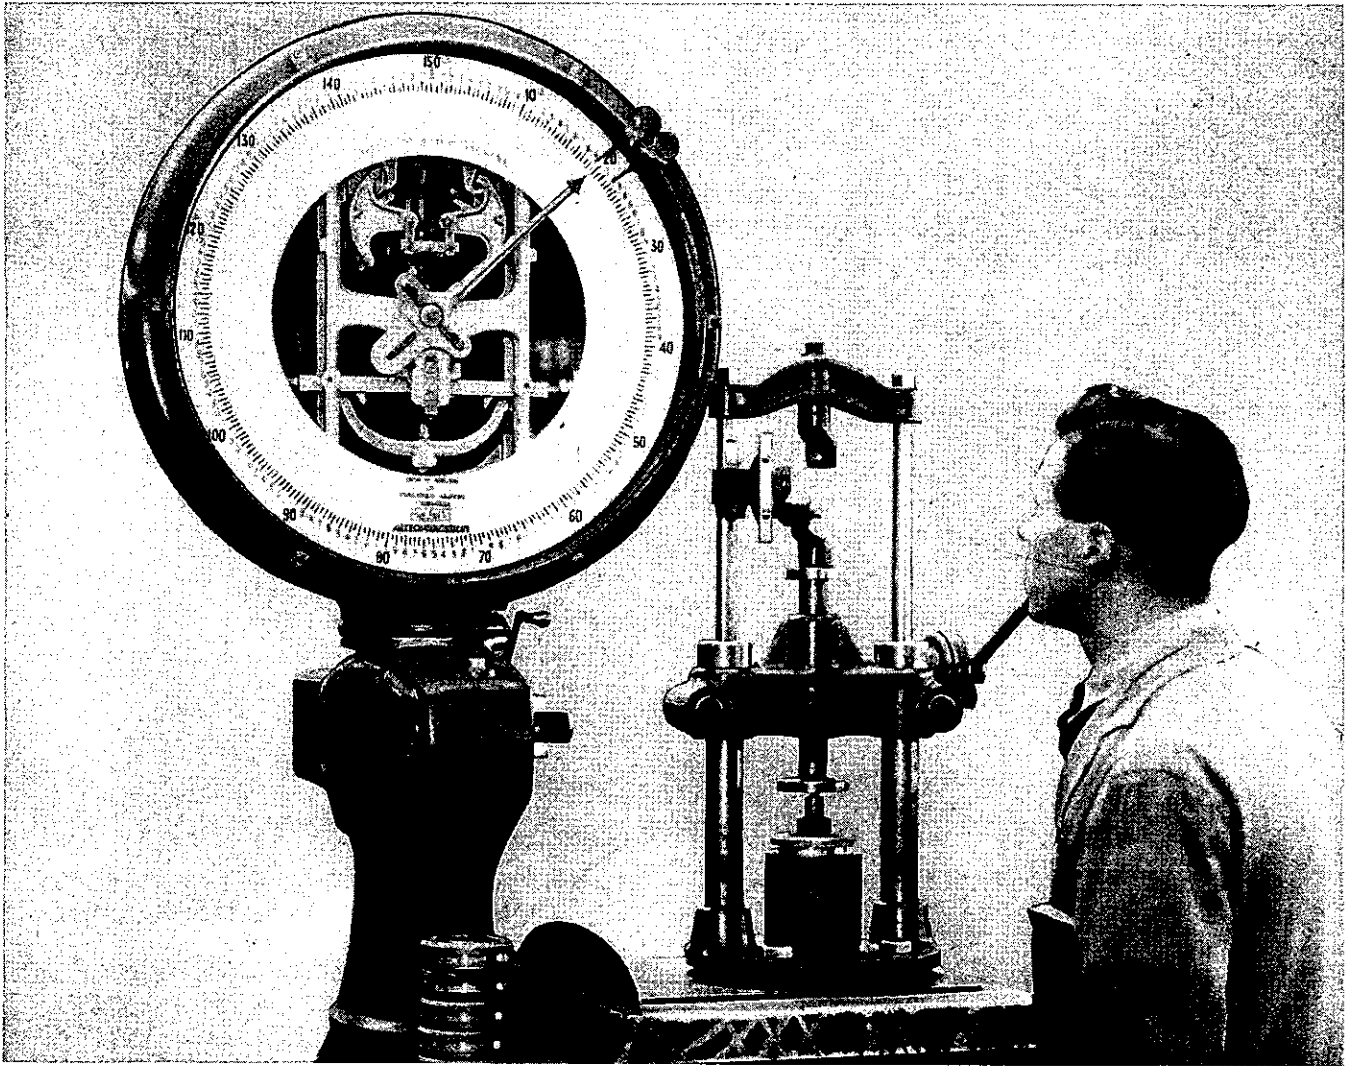
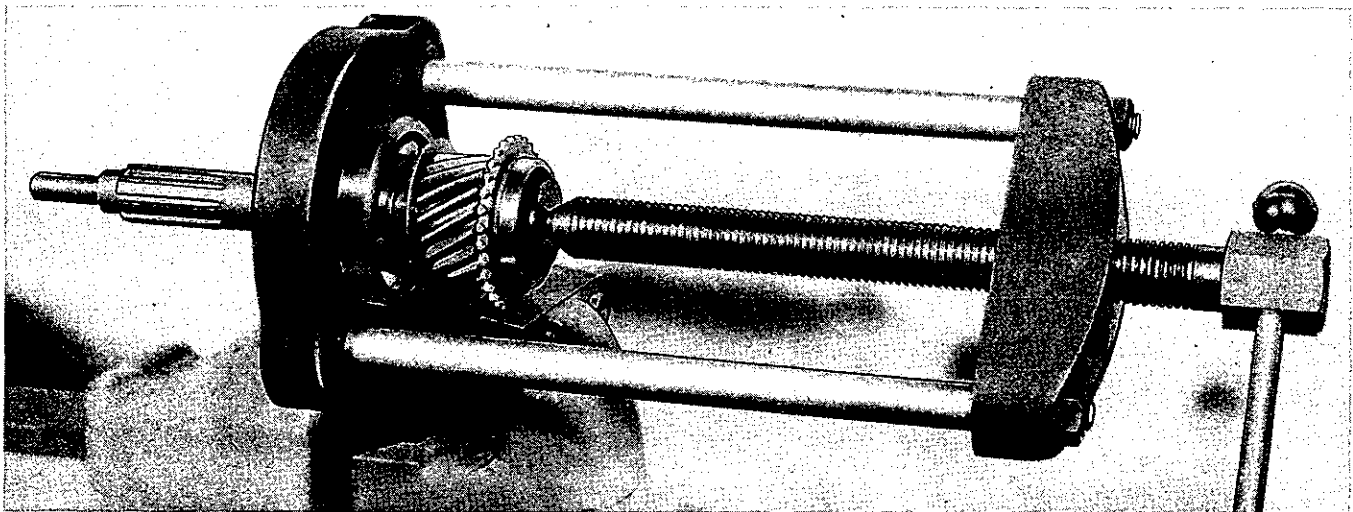
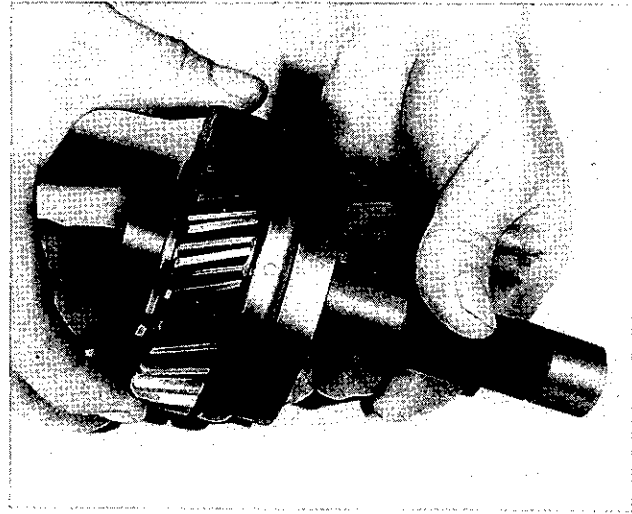

Fig. 25. Testing axial load for synchro release with a spring testing machine
Fig. 26. Fitting constant pinion race with Churchill Fixture 20SM-4615
Fig. 32. Lapping in "first" gear and synchro cup with Churchill Tool No. 20SM-83
must be carried out to increase or decrease loading respectively. The method employed for checking this loading in the factory is illustrated in Fig. 25.
12. Assemble oil thrower on to constant pinion shaft and press ball race on to the shaft as shown in Fig. 26 ensuring that this goes right home and that in this position with the correct thrust washer fitted, the small seeger circlip fits properly into its recess. When passing this circlip along the ground portion of the constant pinion shaft, take care not to score the shaft as such damage may cause subsequent leakage of oil. Fit larger circlip into its recess in the ball race extension.
If doubt exists as to the condition of the coned faces, they should be lapped in together, employing burnishing paste and holding the cup on the special spiggotted fixture shown in Fig. 32. All traces of paste should subsequently be removed with a petrol-moistened rag. Carburundum paste should **NEVER BE EMPLOYED** for this lapping-in process. If the baulk pin spring has become damaged it should be replaced. Where difficulty arises with synchronization of the "second" and "top" gears, the usual explanation, as previously stated, will be the incorrect spring loading of the operating sleeve and for this reason should first receive attention. The correct axial loading for this operating sleeve should be between 19 and 21 lbs. and can be checked on a spring testing machine, employing a suitable ring fixture to support the unit such as shown in Fig. 26, or, alternatively, more simply as indicated in Fig. 25
and the exchange of the oil seal, fitting the replacement with special tool shown in Fig. 32.